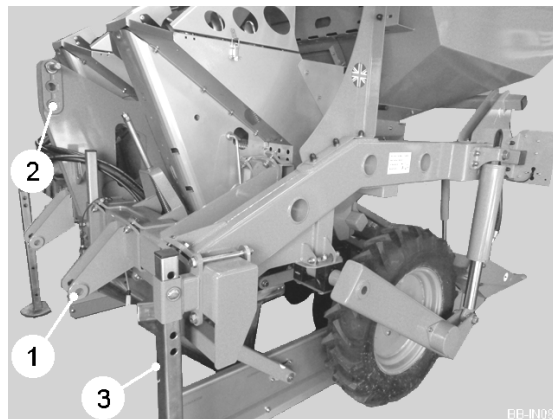

Fig. 1
Reverse the tractor up to the planter and engage the tractor lower link arms onto the planter lower hitch pins (item 1, fig. 1). The tractor arms and stabilisers must be set to ensure the planter runs central to the tractor. Fit the top link (item 2, fig. 1) and adjust to level the planter.
*The parking stands (item 3, fig. 1) must be raised before commencing work. When disconnecting the planter from the tractor always ensure the stands are lowered to support the machine.*